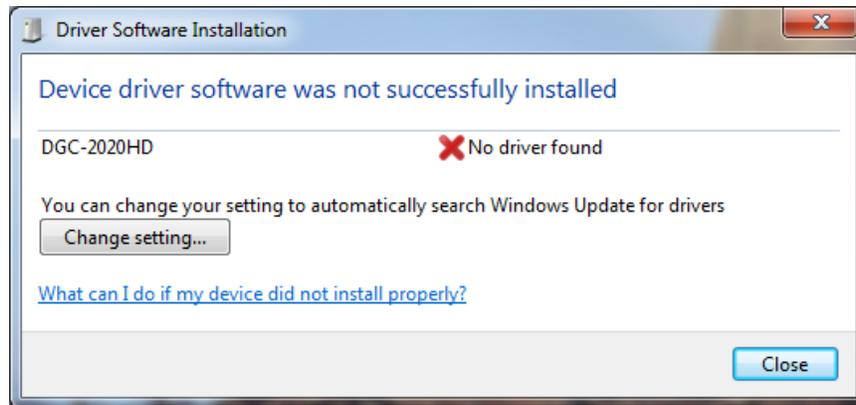

Figure 8-1. Driver Software Installation
- Step 1. If the message in Figure 8-1 is shown, close all programs and restart the computer.